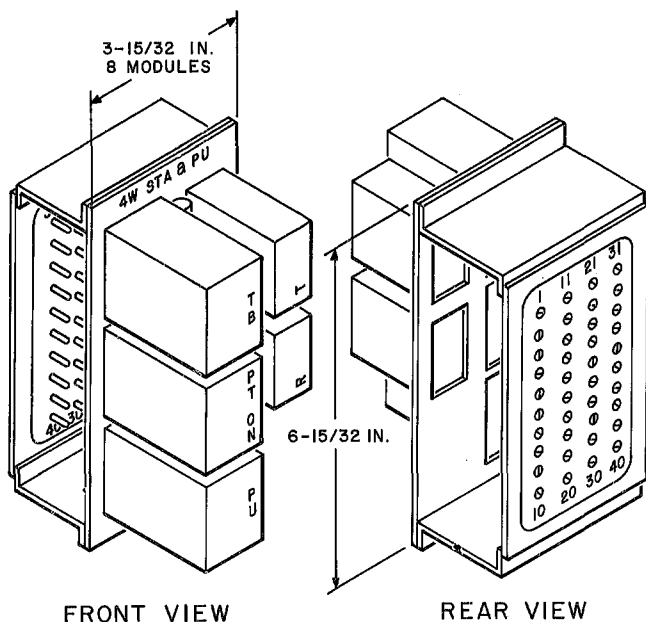

Fig. 4—Combined Single Station and Pickup Relay Unit
2.07 This unit (Fig. 4) combines one pickup relay circuit and one station circuit into a key telephone unit. The same circuits are available in separate units; one to provide the pickup relay circuit and one to provide the station circuit.